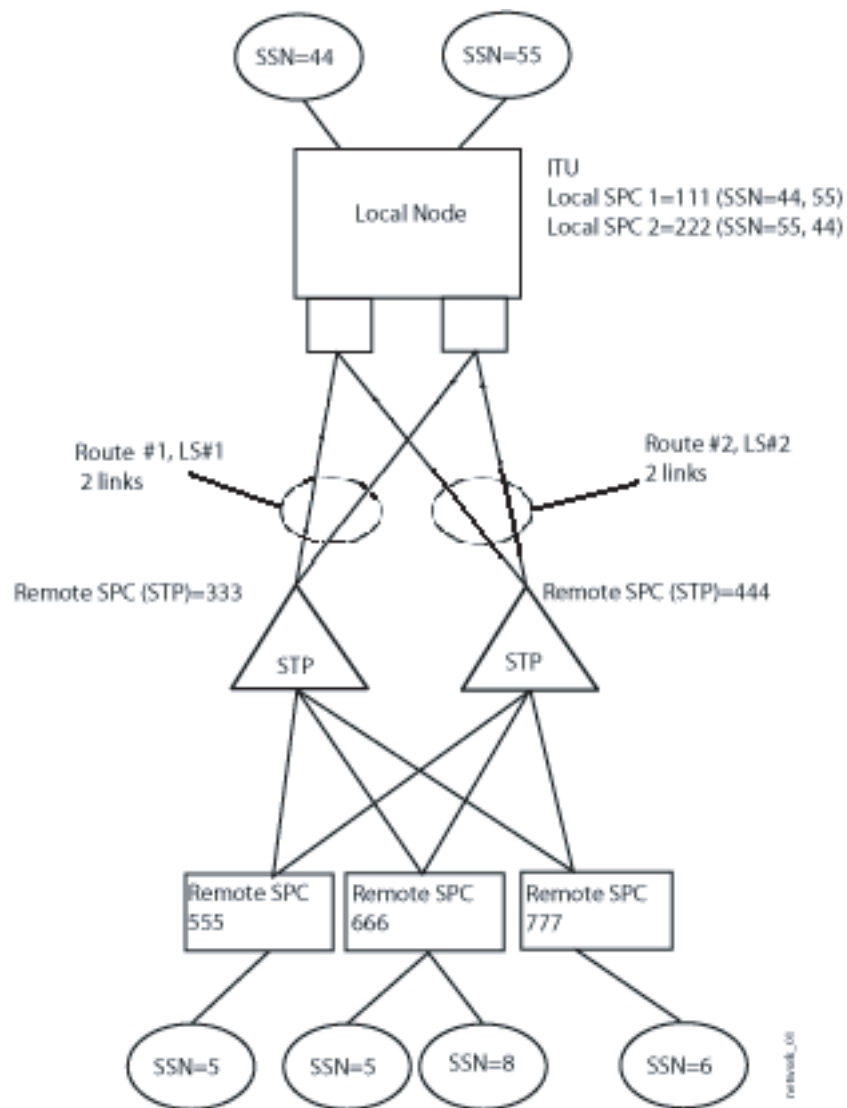

Figure 1 Network Configuration Example
- A single node, see Figure 1
- To make sure that there are always links running during node upgrade or similar, it is recommended to always split links between FEs, so called redundant links, according to Figure 1.
The first condition below (Configuring SS7, MTP-L2 IF ISR - NB,HSL or Configuring SS7, MTP-L2 IF ADAX- NB,HSL) should be met to be able to perform the Example configuration in this text. The example is shown in Figure 1. The other two conditions below are not described in the example, but can also be used as a base for network configurations.
Add the routes and routesets according to the below figure to complete the Example for **LocalSPC:111**, see also Figure 1.